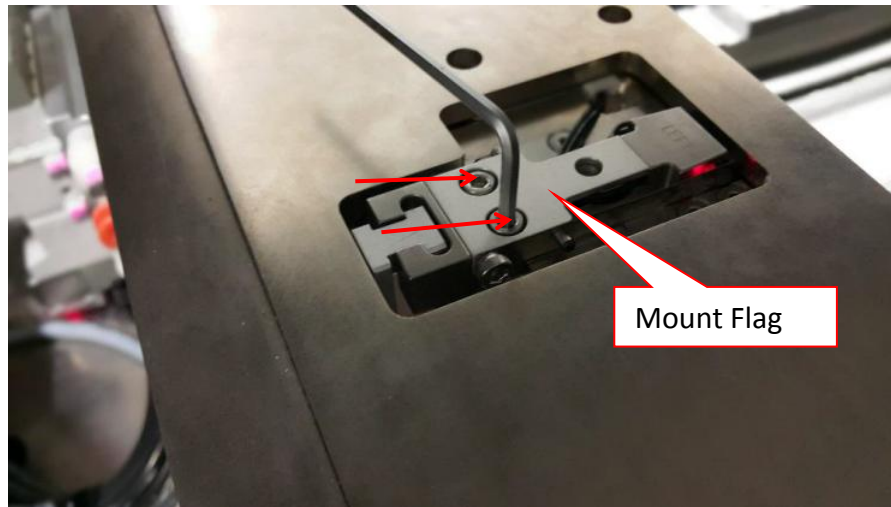

Figure 6 Mount Flag Removal
7. Remove 2 x screws (M3 x 4) & Mount Flag as shown in Figure 6.